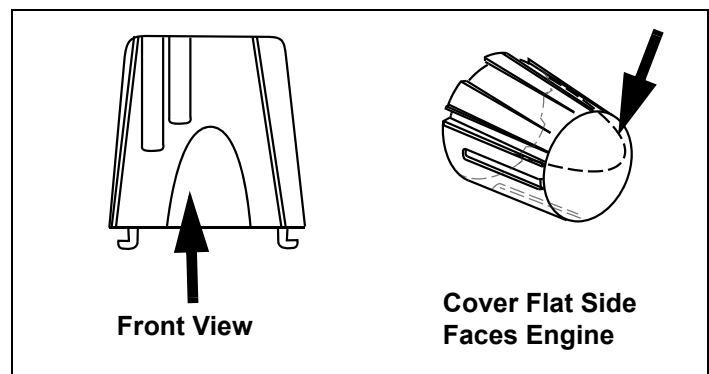

Figure 36. Flat Side of Air Cleaner Cover
6. Make sure flat side of air cleaner cover is facing engine housing. See Figure 36.